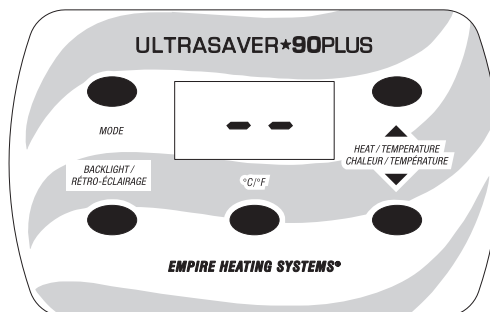

Figure 5
1. To initiate the wall furnace Remote mode, press the "Mode Select" button on the wall furnace display panel once from OFF mode to display a double dash "--". **See Figure 5.**